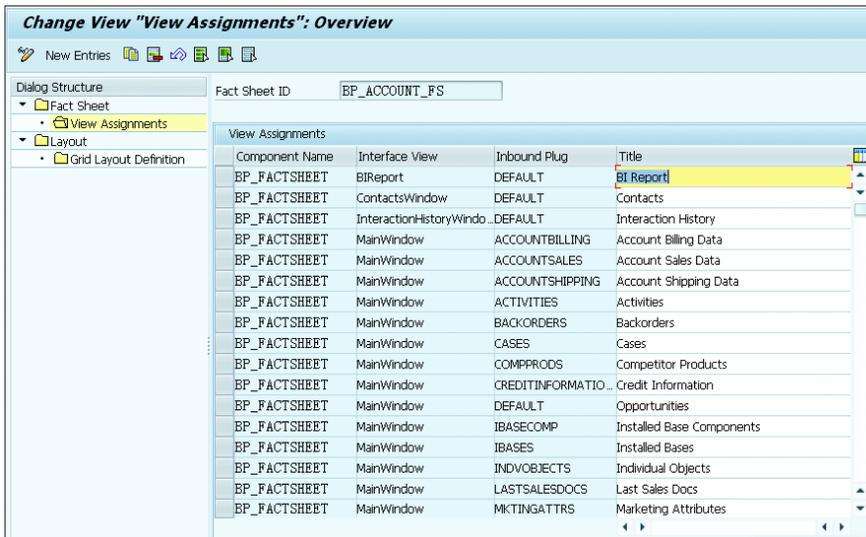

Figure 9.27 Maintaining the Fact Sheet
2. Add the entry of that view if it doesn't exist in the configuration path, CUSTOMER RELATIONSHIP MANAGEMENT • UI FRAMEWORK • UI FRAMEWORK DEFINITION • FACT SHEET • MAINTAIN FACT SHEET. You can create the new FACT SHEET ID and assign the views to the customer FACT SHEET ID. Figure 9.27 shows the view examples from BP_FACTSHEET.